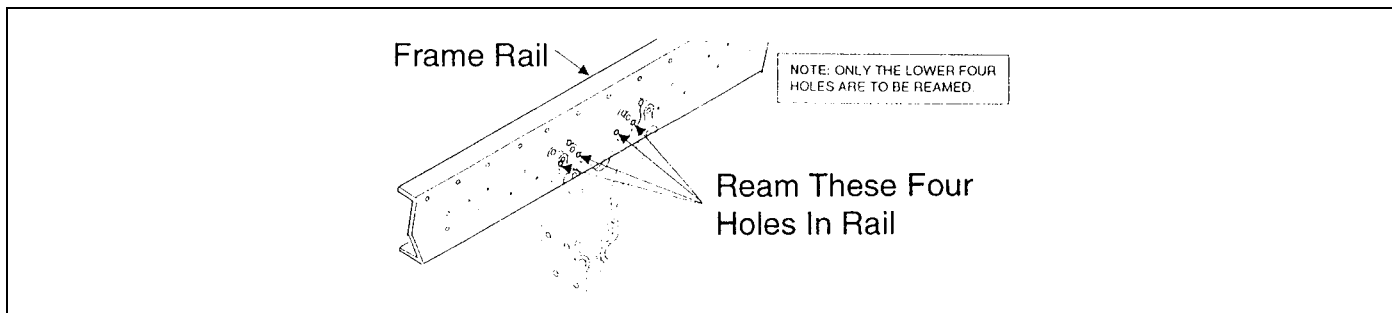

Figure 17-11
2. Ream out four frame rail holes (per bracket) from 17.2 mm to 21.2 mm. See Figure 17-11.